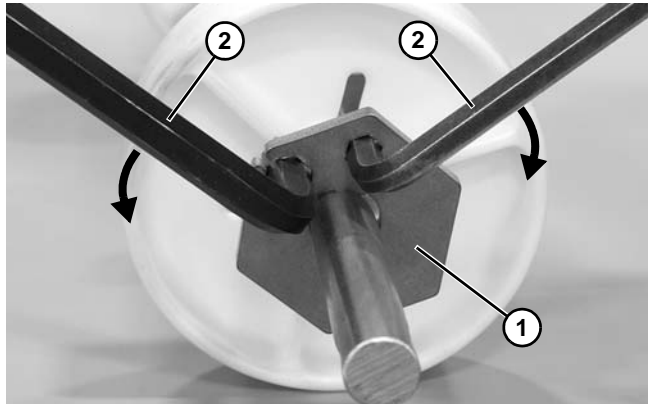

Figure 28
- c. To lock the retainer plate (**Figure 28, item 1**) in place, move the wrenches (**Figure 28, item 2**) away from each other.